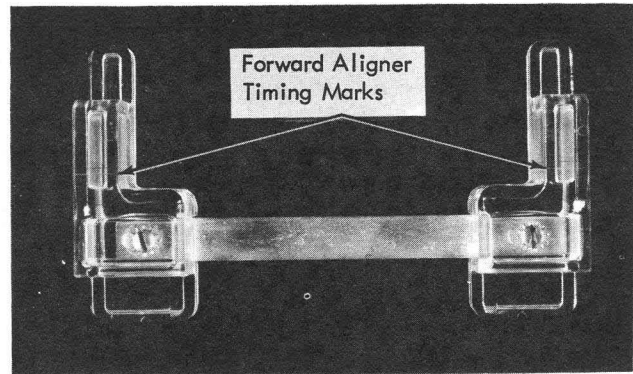
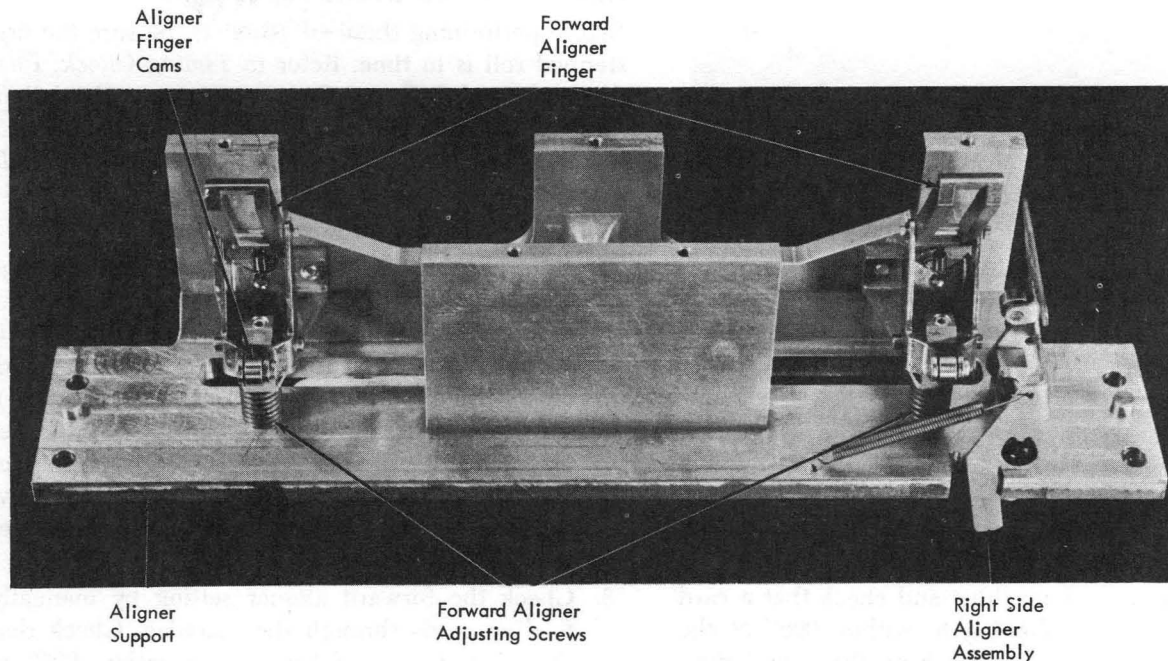

Figure 3-60. Timing Mark Gage
Figure 3-61. Forward Aligner Assembly
4. Continue turning machine and check that a card finishes forward aligning to within .005" of the forward aligner timing mark on the gage before 351° (Figure 3-60). The trailing edge of the card must travel at least $1/32$ inch past the feeding
2. Adjust forward aligners so that the trailing edge of the card is against each aligning surface of the forward aligners, and that the leading edge is within .005" of the forward aligner timing mark on the timing-mark gage at 351° (Figure 3-60). Turn the adjusting screw of the forward aligner clockwise in order to move the forward aligner away from the hopper. Turn the adjusting screw counter-clockwise to move the forward aligner toward the hopper (Figure 3-61).